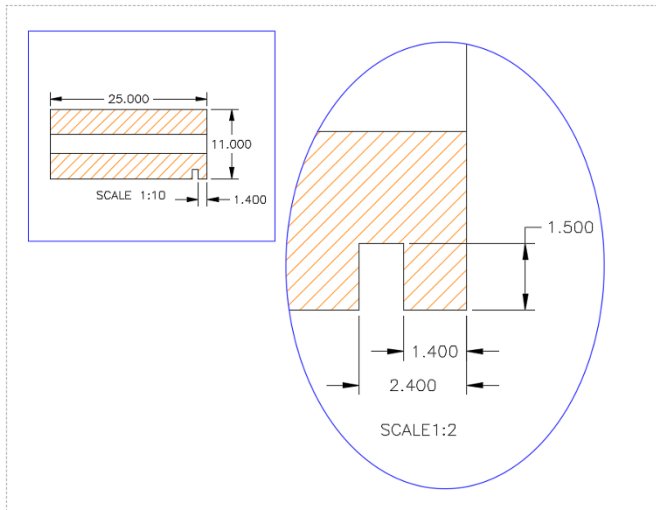

FIGURE 12-3:
Earlier in this chapter, I said that viewport boundaries should normally be placed on their own non-plotting layer. That is generally true for the main viewport that shows all or most of the objects in model space. Standard practice, however, is for details at different scales to display their viewport boundaries, as shown in Figure 12-3. The solution is to create two layers for viewports, one that plots and one that doesn't.
- » **Viewports don't have to be rectangular.** The Ribbon's Layout tab includes three options in the Layout Viewports tab, but two will be hidden under the last one used. The options are Rectangular, Polygon (you pick a series of points that lasso the desired region), and Object, which lets you choose any existing closed shape and convert it to a viewport. That's how I created the elliptical detail in Figure 12-3.